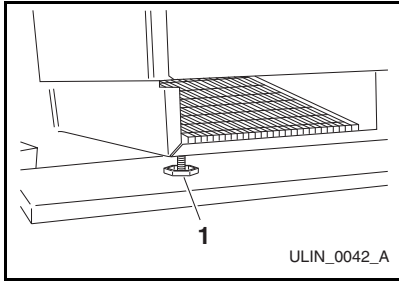

Figure 20
2. If the unit is not level, adjust the feet on the corners of the unit as necessary (**Figure 20**).